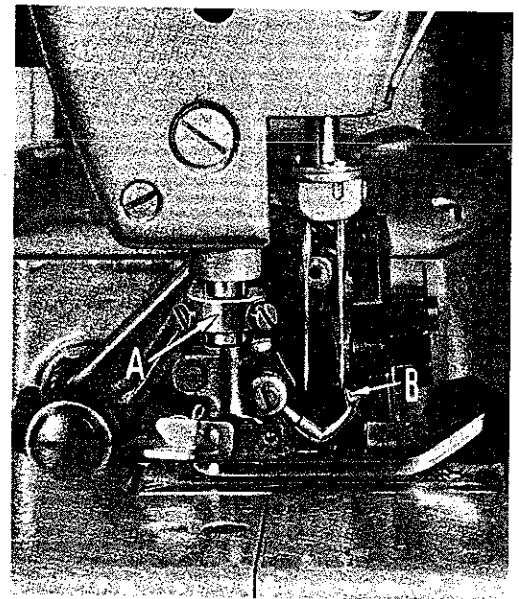

Fig. 14
Set the presser bar stop collar (A, Fig. 14) so the presser foot cannot be raised or tilted into the path of the spreader (B).